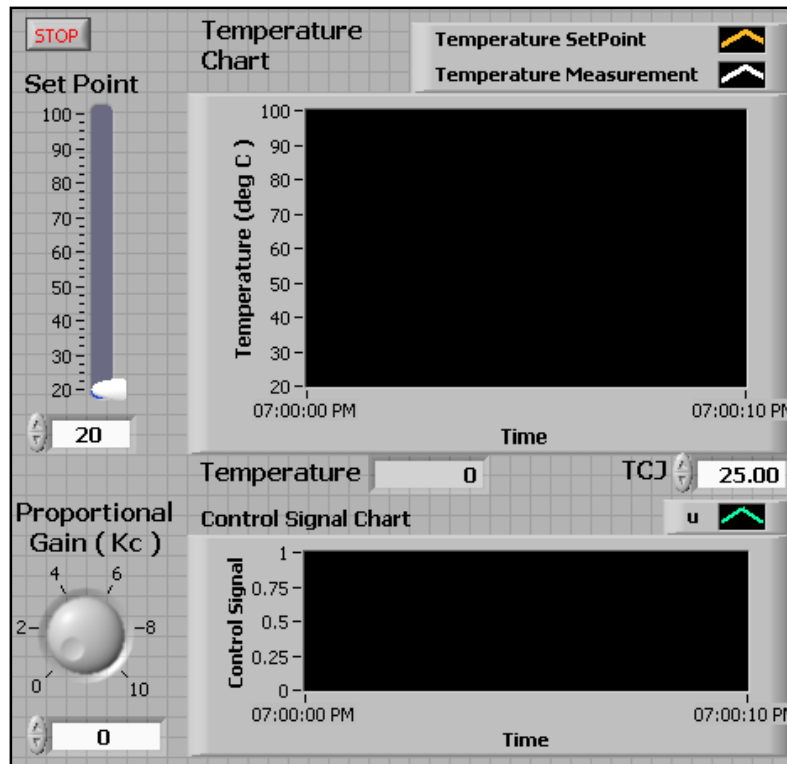

Figure 3a.
5. Add a “Setpoint” slider control, “Proportional Gain” knob control, “Temperature” chart and “Control Signal Chart”, as shown in the “Proportional Feedback Control VI” in Figure 3a. **[Right-click]** on the slider block (in the front panel) and select **[Visible Items]→[Digital Display]**. Reposition the **[Digital Display]** to be below the slider as shown in Figure 3a. Do the same with the “Proportional Gain” knob control.